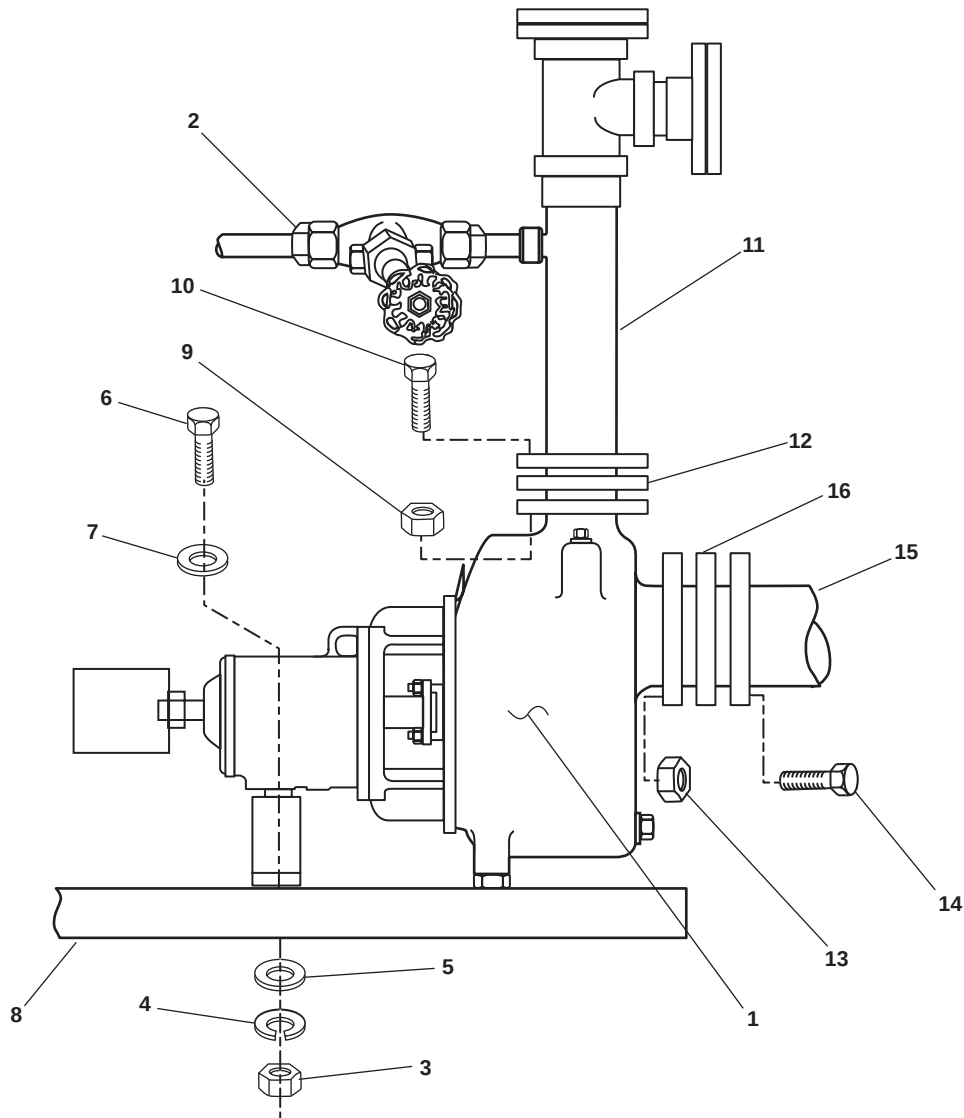

Figure 1. Ballast Pump
1. Place a suitable drain pan under the ballast pump (figure 1, item 1).
2. Slowly open the pressure gauge fitting (figure 1, item 2) to relieve pressure from the ballast pump (figure 1, item 1).
3. After all pressure has been released, completely disconnect the pressure gauge piping (figure 1, item 2) from the ballast pump's piping.
4. Remove the four nuts (figure 1, item 3), four lockwashers (figure 1, item 4), four flat washers (figure 1, item 5), four bolts (figure 1, item 6), and four flat washers (figure 1, item 7) securing the ballast pump (figure 1, item 1) to its foundation (figure 1, item 8). Discard the lockwashers.
5. Remove the four nuts (figure 1, item 9) and four bolts (figure 1, item 10) securing the ballast pump to the discharge piping (figure 1, item 11).
6. Remove the gasket (figure 1, item 12) from the discharge piping (figure 1, item 11). Discard the gasket.
7. Remove the four nuts (figure 1, item 13) and four bolts (figure 1, item 14) securing the ballast pump (figure 1, item 2) to the suction piping (figure 1, item 15).
8. Remove the gasket (figure 1, item 16) from the suction piping (figure 1, item 15). Discard the gasket.
9. Using the endless sling and chain hoist, remove the ballast pump (figure 1, item 1) from the foundation (figure 1, item 8).
1. Using the endless sling and chain hoist, install the ballast pump (figure 1, item 1) on its foundation (figure 1, item 8).
2. Install the four bolts (figure 1, item 6), eight flat washers (figure 1, items 5 and 7), four new lockwashers (figure 1, item 4), and four nuts (figure 1, item 3) securing the ballast pump (figure 1, item 1) to its foundation (figure 1, item 8). Do not tighten the bolts at this time.
3. Install a new gasket (figure 1, item 12) between the ballast pump (figure 1, item 1) and the discharge piping (figure 1, item 11) and install the four bolts (figure 1, item 10) and four nuts (figure 1, item 9). Do not tighten bolts at this time.
4. Install a new gasket (figure 1, item 16) between the ballast pump (figure 1, item 1) and the suction piping (figure 1, item 15) and install the four bolts (figure 1, item 14) and four nuts (figure 1, item 13). Do not tighten bolts at this time.